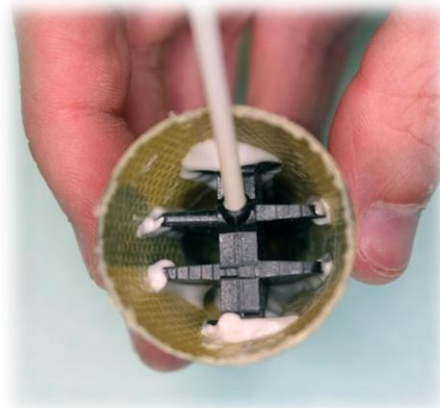

Figure 6: Mounting bracket cemented in place in the fuselage.
9. Once the mounting bracket is in place and aligned with the slot in the fuselage add more putty to ensure a secure bond between the mounting bracket and the fuselage as shown in figure 6.